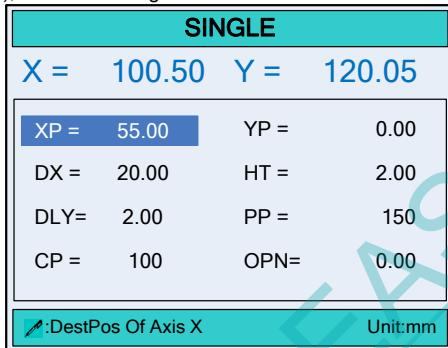

Figure 3-1 The **SINGLE** page
Step 1 When the E200P device is electrified, wait a few seconds into the **SINGLE** page (Default page), as shown in Figure 3-1.